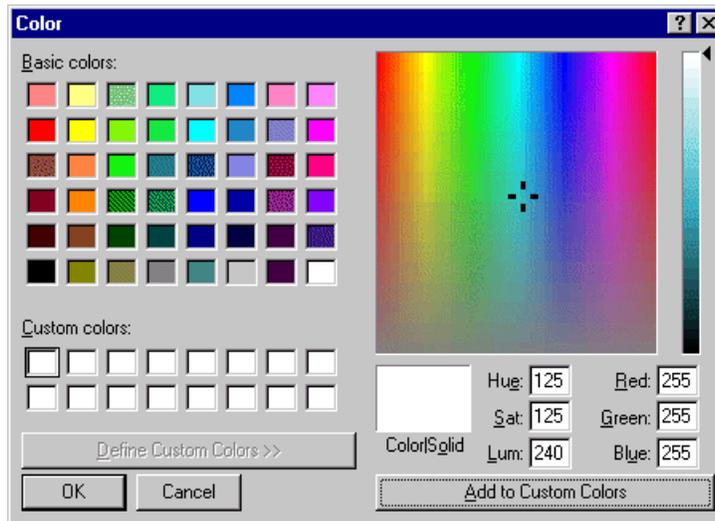

Figure 131. Color dialog box, with custom color controls shown
1. Choose **View | Color | Text** or **View | Color | Highlight** and the Color dialog box appears (Figure 131).